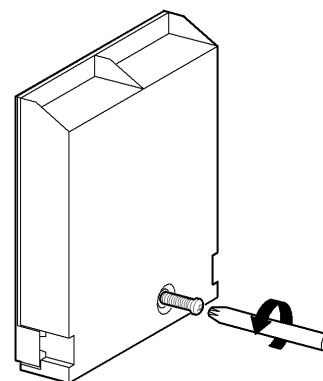

Fig. 4
- First remove retaining screw with pozidrive screwdriver. See Fig. 4.